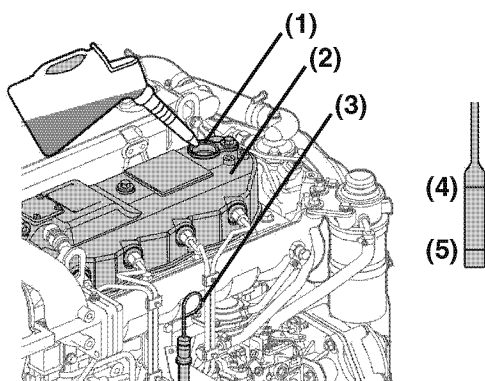

Figure 8
2. Remove dipstick (**Figure 8, (2)**) and wipe with clean cloth.
4. Remove dipstick. The oil level should be between upper (**Figure 8, (4)**) and lower (**Figure 8, (5)**) lines on the dipstick.
1. Remove the yellow oil filler port cap from filler port (**Figure 8, (1)**) and fill with engine oil.
2. Fill with oil to the upper limit (**Figure 8, (4)**) on the dipstick (**Figure 8, (3)**).